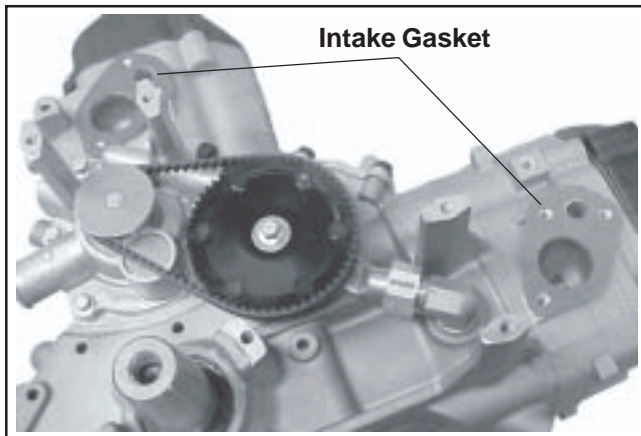

Figure 11-56. Installing Intake Gaskets.
2. Install new intake manifold gaskets onto the port surfaces of the cylinder heads. See Figure 11-56.